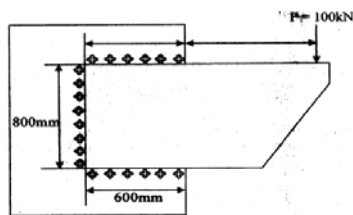

Fig 1
11. Determine the weld size for a welded joint as shown in Fig 1. [L3]